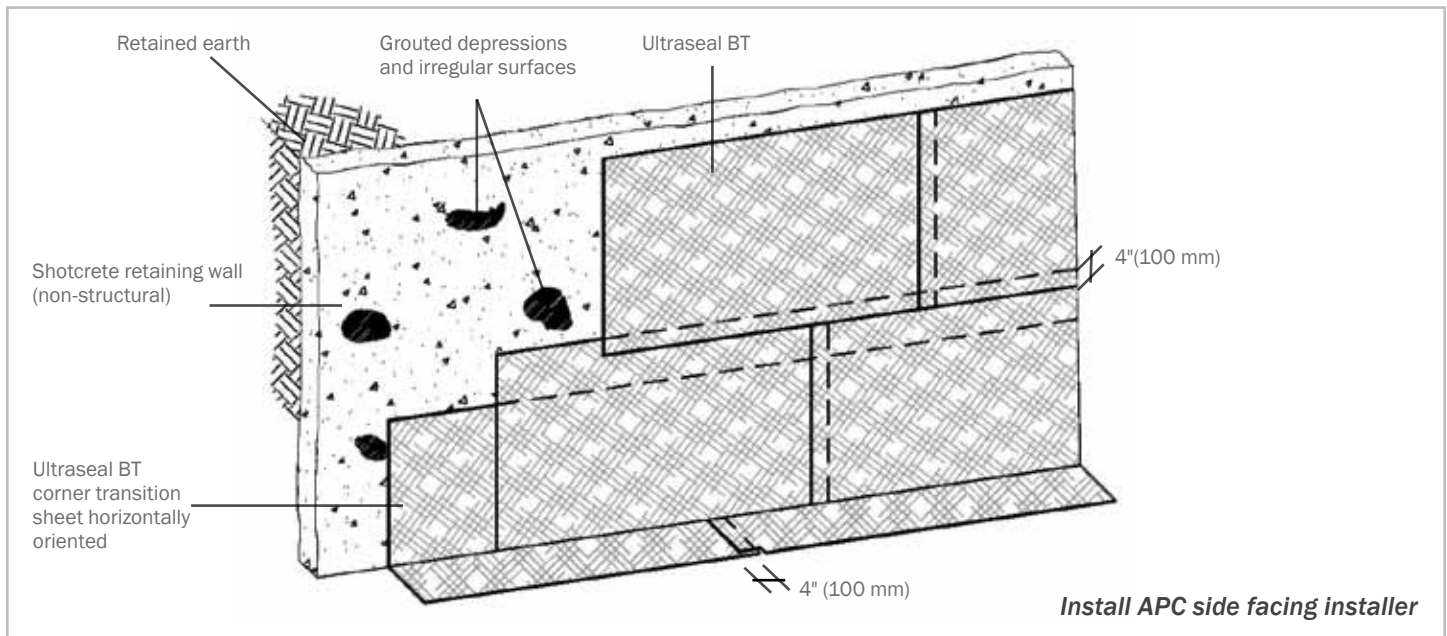

Figure 2.18 - Ultraseal BT installation over an earth formed shotcrete retention wall prior to cast-in-place concrete wall.
**Preparation:** The surface of the earth formed diaphragm wall must be sufficiently planar to provide an adequately smooth surface to apply Ultraseal BT. Ultraseal BT can be applied over large, relatively shallow indentations. The surface should not contain voids or sharp protrusions in excess of 1" (25 mm). Fill all voids with cementitious grout and remove protrusions prior to mounting Ultraseal BT (Figure 2.18).